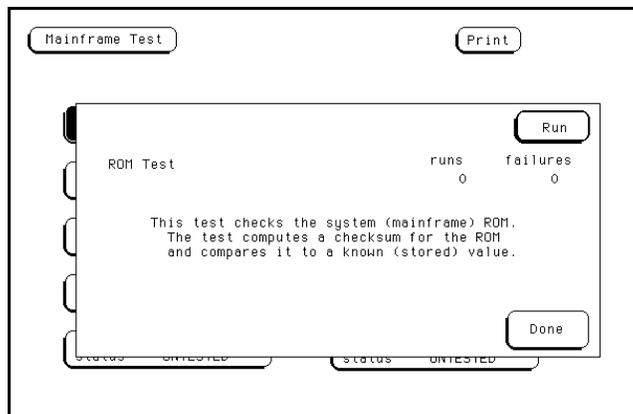

Figure 6-11. ROM Test Screen
2. Touch the **ROM Test** field. The ROM Test screen is displayed. See figure 6-11.